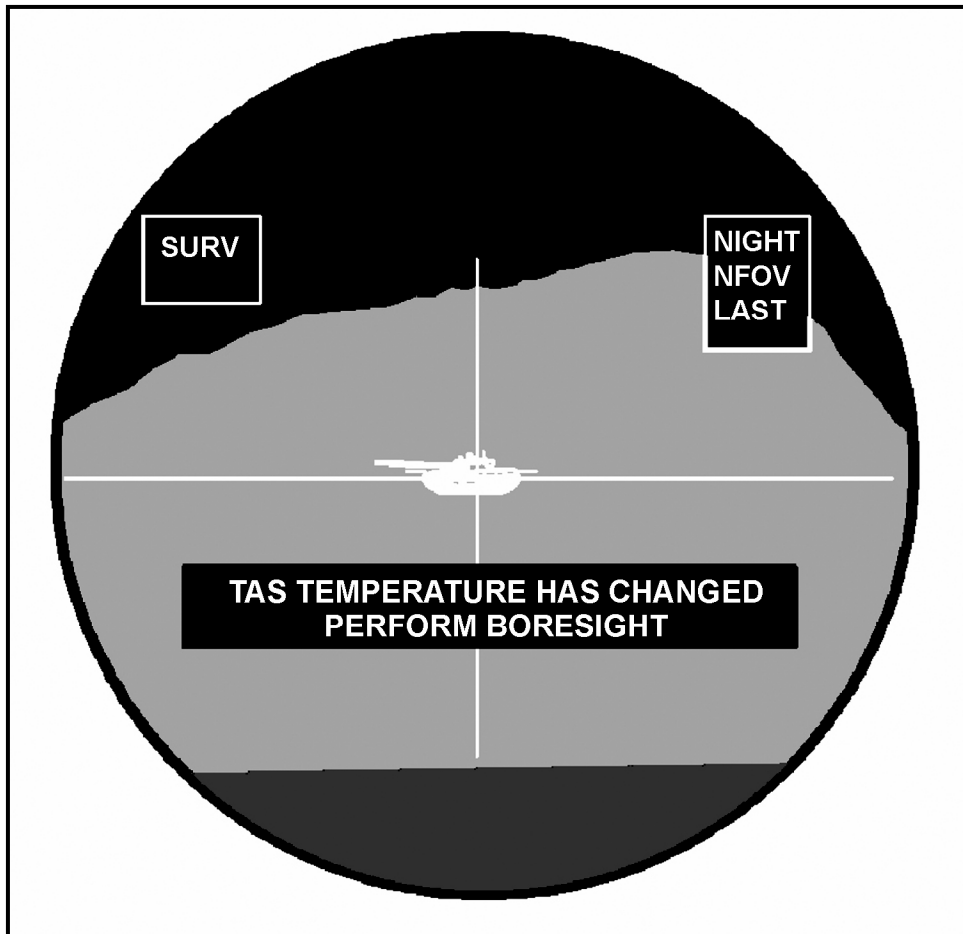

Figure E-2. Boresight message.
a. **TAS TEMPERATURE HAS CHANGED – PERFORM BORESIGHT.** As the temperature changes, optical assemblies within the TAS expand or contract and the daysight, NVS, LRF, and Xenon beacon tracker may no longer be aligned. The ITAS records the ambient temperature when the last boresight task was performed. When the temperatures vary ± 18 degrees Fahrenheit, the TAS displays the temperature change message (Figure E-2, page E-4). To correct, if the message appears during a target engagement, complete the engagement, then boresight the system again. If not in the process of engaging a target, boresight immediately.